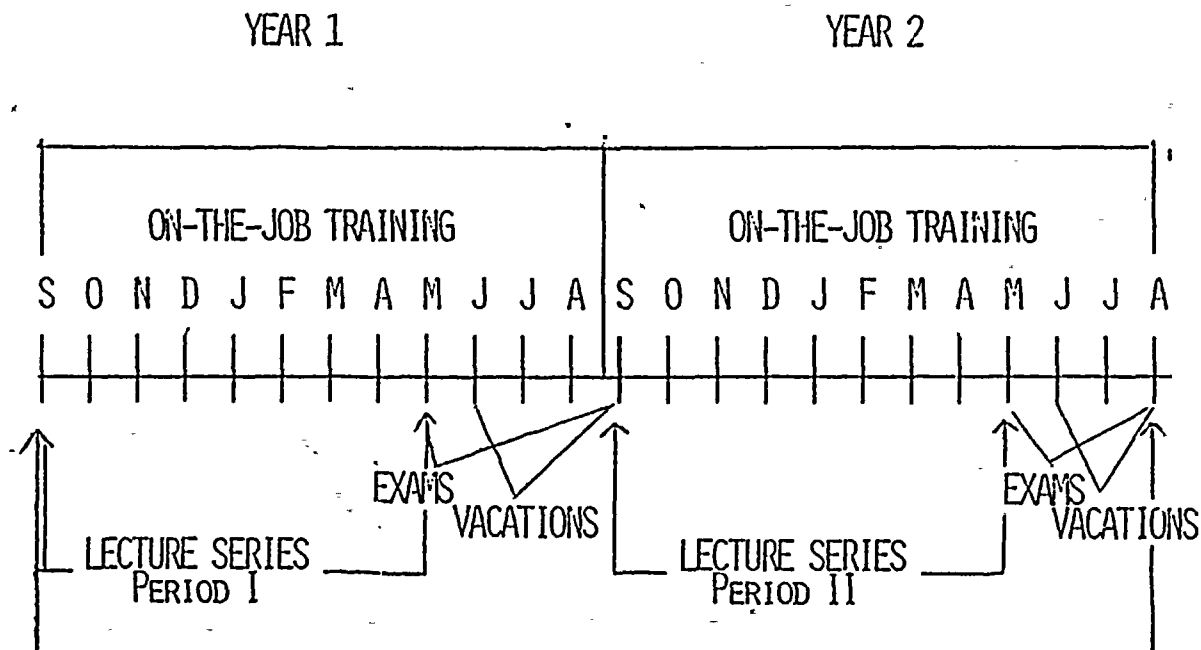

FIGURE 1. TYPICAL OVERALL NRC LICENSED OPERATOR REQUALIFICATION PROGRAM SCHEDULE
The overall requalification program schedule is illustrated in Figure 1. The requalification program is conducted for a continuous two-year cycle, Memorial Day to Memorial Day, and upon its conclusion a successive requalification program is immediately initiated. Each requalification cycle is divided into two (2) halves designated requalification year one (1) and requalification year two (2) respectively. Subsequent cycles will be designated year three (3) and year four (4), etc.